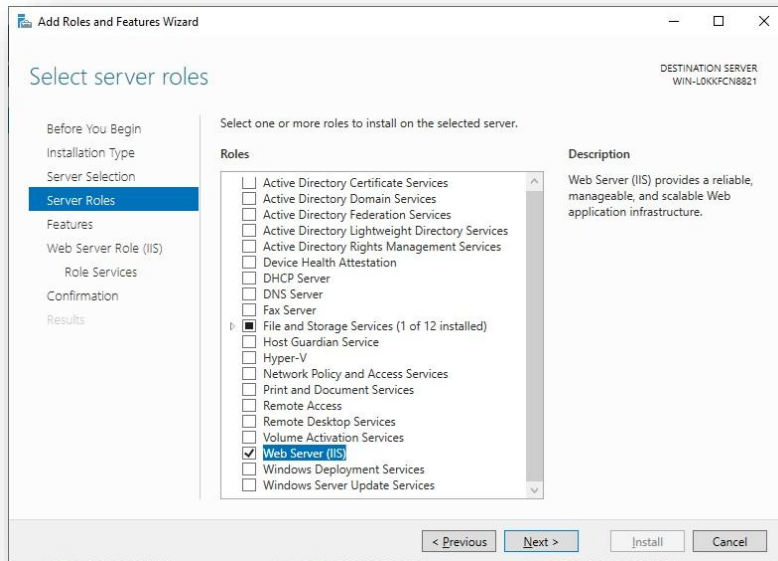

Figure 2 – Add Rules Wizard (Select Server Roles)
3. In the **Add Roles and Features Wizard** window, check **Web Server (IIS)** and click **Next**. See Figure 2.